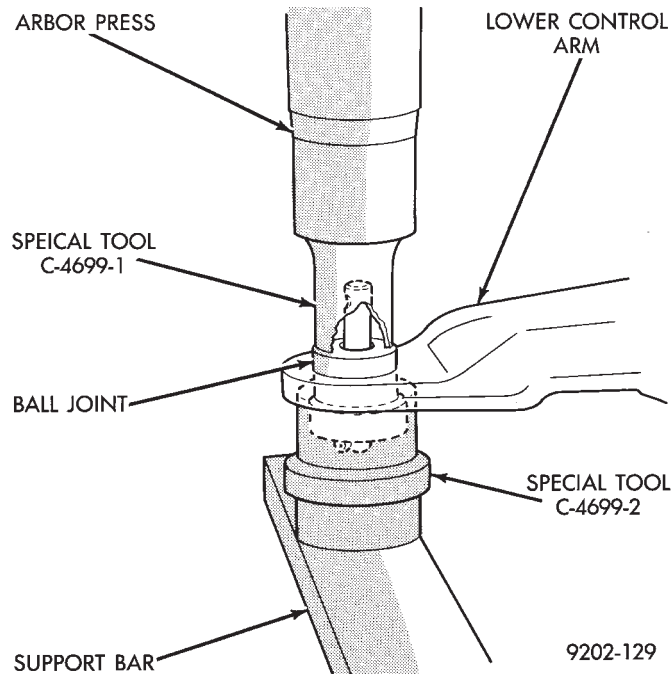

Fig. 2 Removing Ball Joint
- (1) Pry off seal.
- (2) Position Receiving Cup Tool C-4699-2 to support lower control arm while receiving ball joint assembly (Fig. 2).
- (3) Install Remover/Installer Special Tool C-4699-1 (Fig. 2) over ball joint stud and against the ball joint upper housing.
- (4) Press down against the ball joint upper housing, to remove ball joint assembly from lower control arm.